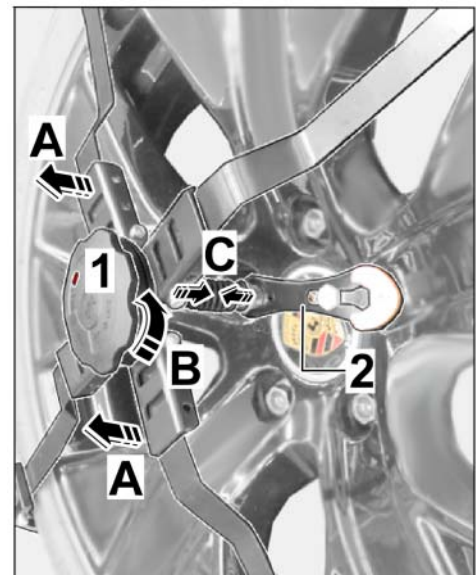

Figure 11
3.1 Pull the knob slightly off the rear wheel (⇒ *Figure 11-A*).
At the same time, turn the knob to the left (minus "-" sign ⇒ *Figure 11-B*) until the fastening lever with cable and bellows (⇒ *Figure 11-C*) have become loose.